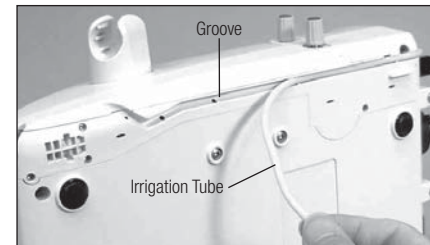

Fig. 37
- 4) Remove the Irrigation Tube from the groove on the reverse side of the Control Unit. (Fig.37)